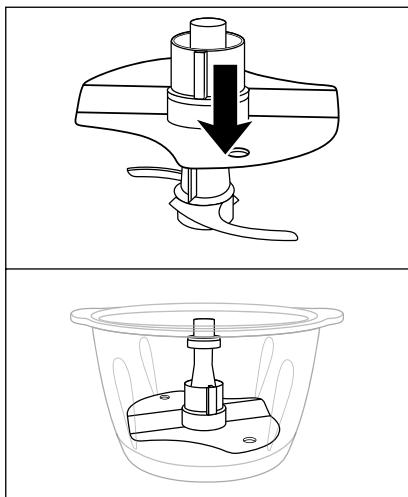

Fig. 1
- To whip 200–400 ml of cream, place the emulsifying disc 12 onto the blade holder 7 so that the emulsifying disc 12 is in contact with both parts of the blade 8 and clicks into place (fig. 1):